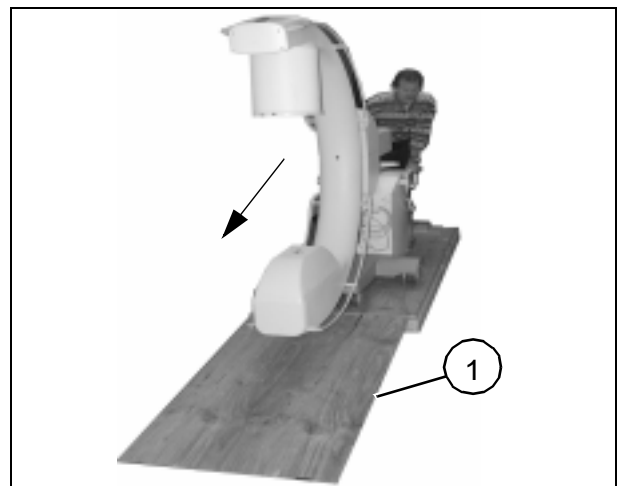

Fig. 7
- Firmly attach unloading ramp (1/Fig. 7) with nails (accessory pack mounted at the ramp) to pallet.